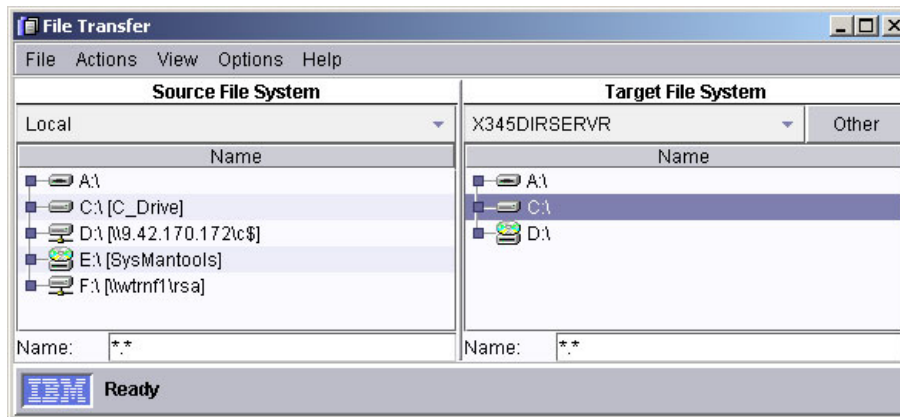

Figure 7-10 File transfer window
2. Once connected, select the task **File Transfer** in the right-hand pane, and drag and drop this onto the server you want to use ASU with. The file transfer window will now open. See Figure 7-10.